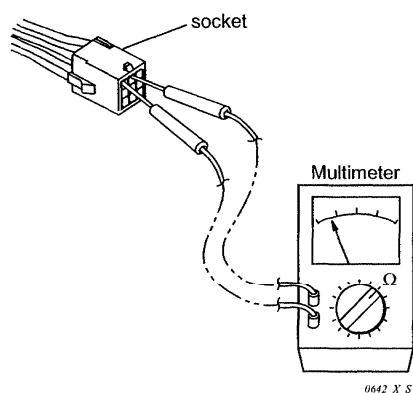

Fig. 20
- Then check continuity among plug's (and/or socket's) terminal as in **Fig. 20**.